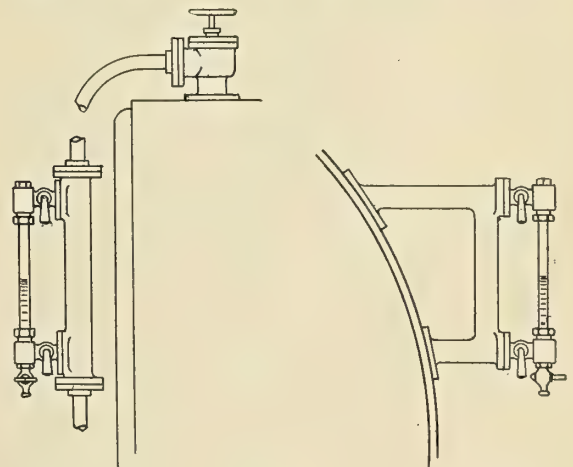

FIG. 10.
**Water Gauge and Cocks.**—The level of the water within the boiler is shown by a vertical glass tube connected to fittings at each end, which in turn connect the one with the steam space and the other with the water space. As shown in Fig. 10, the entire arrangement of glass and fittings is attached to a hollow mounting called the *stand-pipe*, *water-column*, or *water-gauge mounting*. To the top and bottom of this are attached pipes, one leading to the steam space at or near the top, and the other to the water space at or near the bottom. In connecting the pipe with the steam space care must be taken that the opening is not near a steam outlet, as the rush of steam past such an opening might disturb the pressure and render the indications inaccurate by showing a higher level of water in the glass than actually exists in the boiler. At the bottom of the mounting a drain cock and pipe are provided, so that the glass may be blown through and cleaned as occasion requires. Screw plugs are also fitted above and below in a line with the base of the tube, so that if necessary a wire and swab may be run through the glass. Instead of the connections as shown in Fig. 10, and which are to be considered as preferable, the ends of the water column are sometimes connected by horizontal passages directly to the boiler, as in Fig. 11, which shows the fitting attached to the curved shell of boiler. With such a mounting the level of water in the glass is more liable to fluctuation and disturbance due to rolling of the ship or to priming than with the arrangement of Fig. 10.